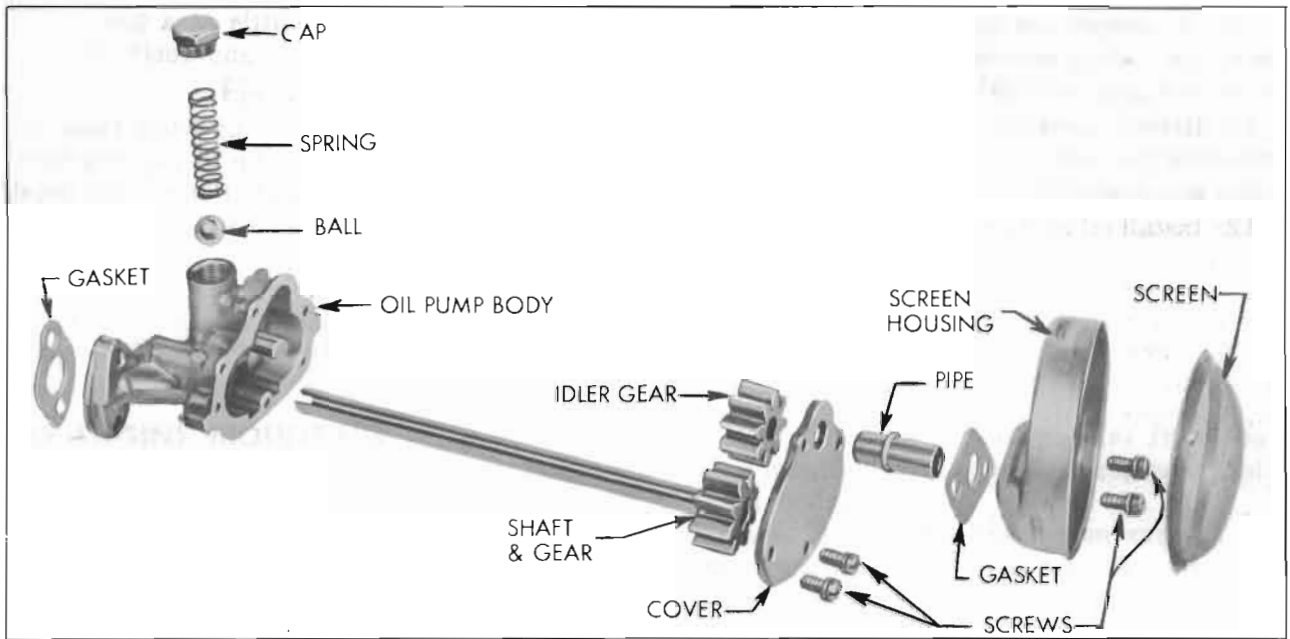

Figure 2-40—Oil Pump Exploded View
1. Remove screen and screen housing. Remove gasket, pipe and cover from pump body. Remove gears. See figure 2-40.